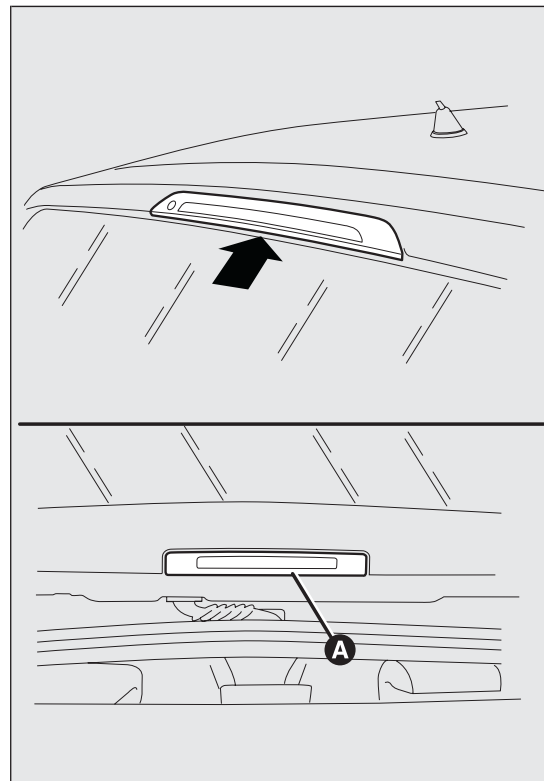

fig. 170
- remove the cover A fig. 170;
- refit the cover A fig. 170 and close the luggage compartment.